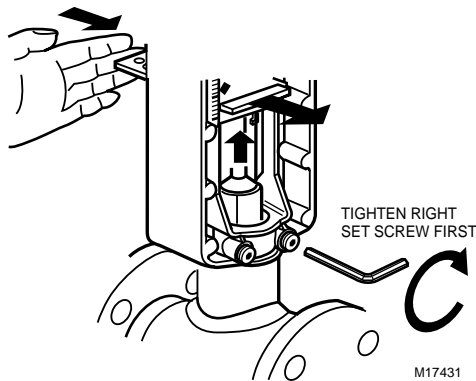

Fig. 2. Attaching actuator to valve.
1. Place the actuator on the valve with the U-bolt around the valve collar. See Fig. 2.
When tightening the set screws, first tighten the right set screw. See Fig. 2.
3. Push aside the stem button retaining clip and hold. See Fig. 2.